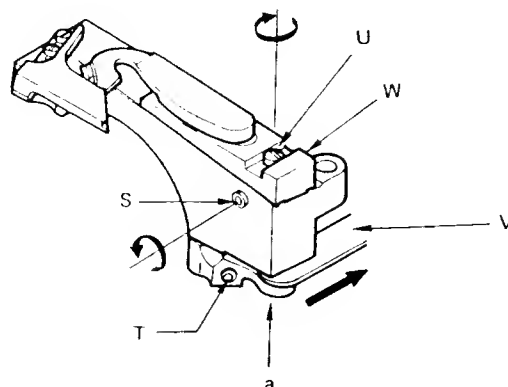

Fig. 75
The pressure of thread puller against stationary knife should be held as light as possible and never be greater than actually required. (The force required to actuate the thread puller when applied to point a, Fig. 75 should be approximately 1kg.)
2. Turn machine pulley over toward front of machine until the needle bar go beyond its upper dead point and descend to the point shown in Fig. 75.